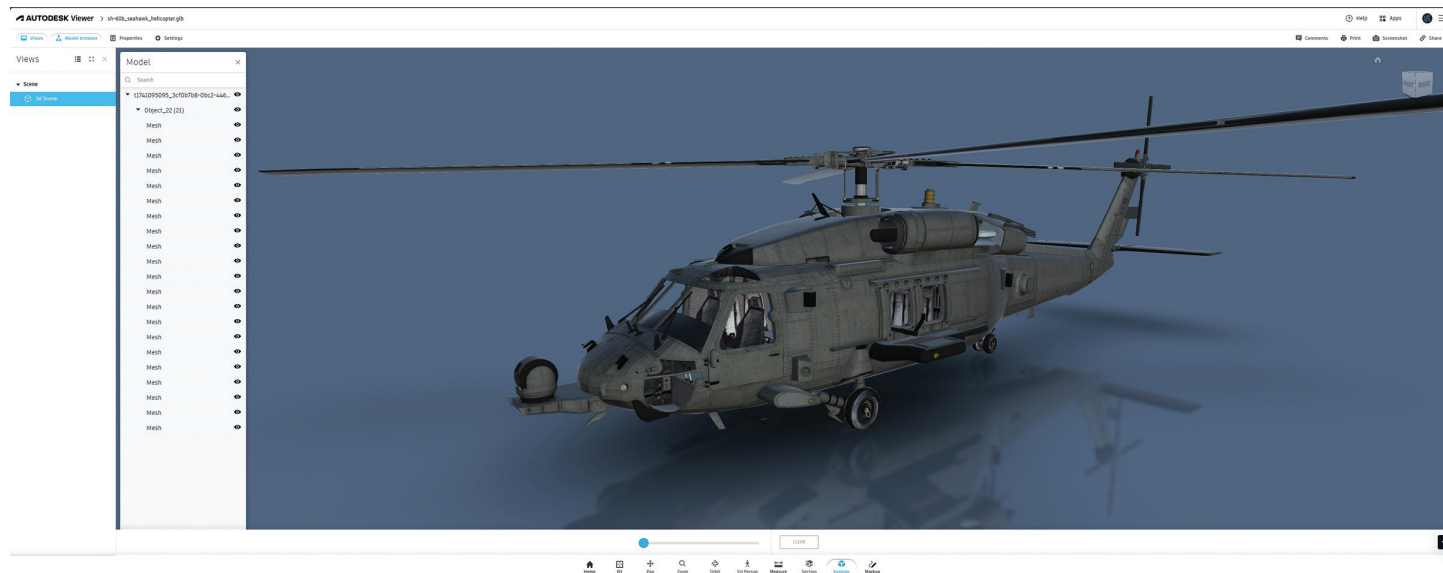

Figure 1: Autodesk Viewer
- Enhance Presentations: Showcase your 3D designs interactively with Autodesk Viewer or Sketchfab, eliminating the need for specialized software. See Figure 1.